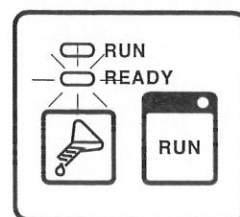

fig.10
- As soon as film insertion is completed, the feed signal (beep) will sound and the **READY** lamp will go on again. (fig.10)
- ⑤ After the beep stops, insert the next sheet of film.